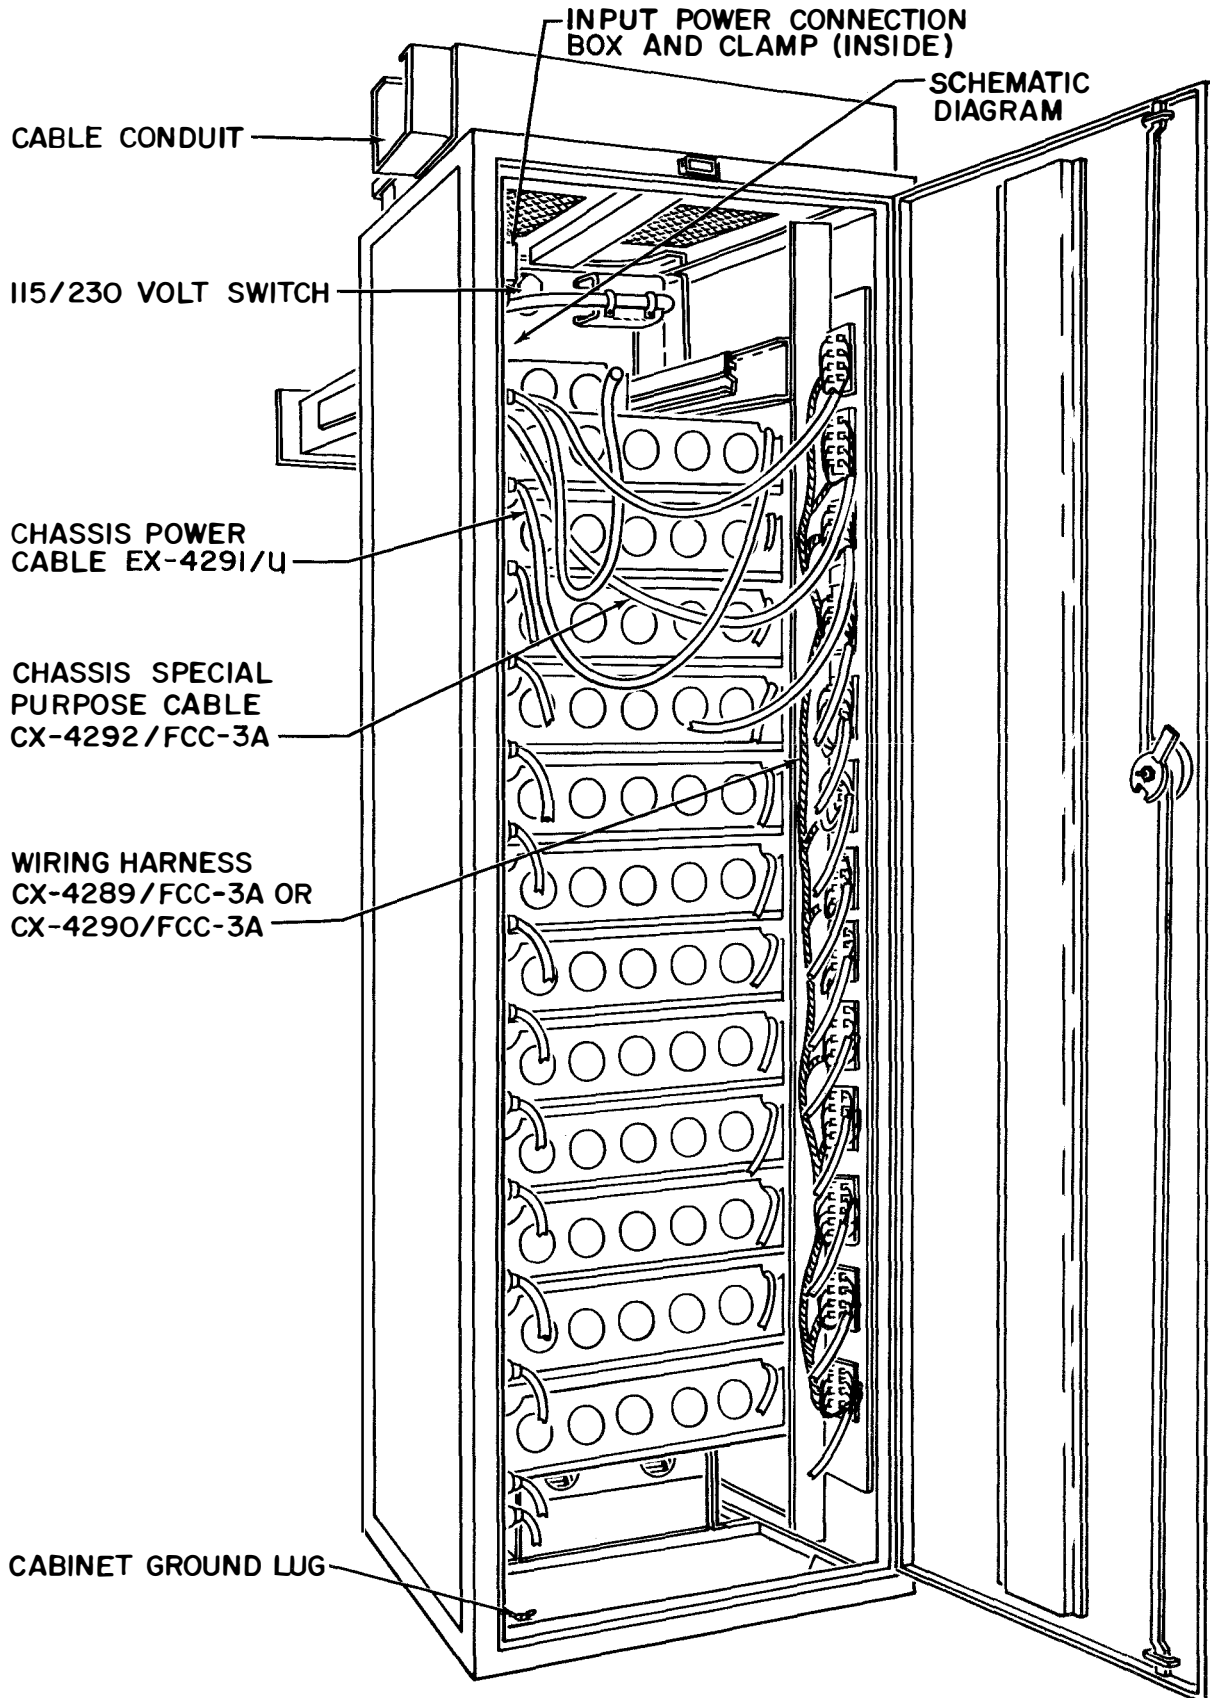

Figure 3-4. Rear View of Cabinet with Wiring
b. **INSTALLATION WIRING.** - Figure 3-4 shows a rear view of a partially wired cabinet. The telegraph loop circuits must be wired at the time of installation to meet the over-all requirements of the particular installation and, wherever possible, these circuits should be identical to facilitate patching. In minor installations not having a common battery supply, the preferable loop connection is with the battery supplied from the AN/FCC-3A. Clamps are provided along the vertical mounting bracket on the left side of the cabinet and are designed to hold the cabled loop circuit lines and keep them separate from the other wiring. The incoming lines to the cabinet can enter either